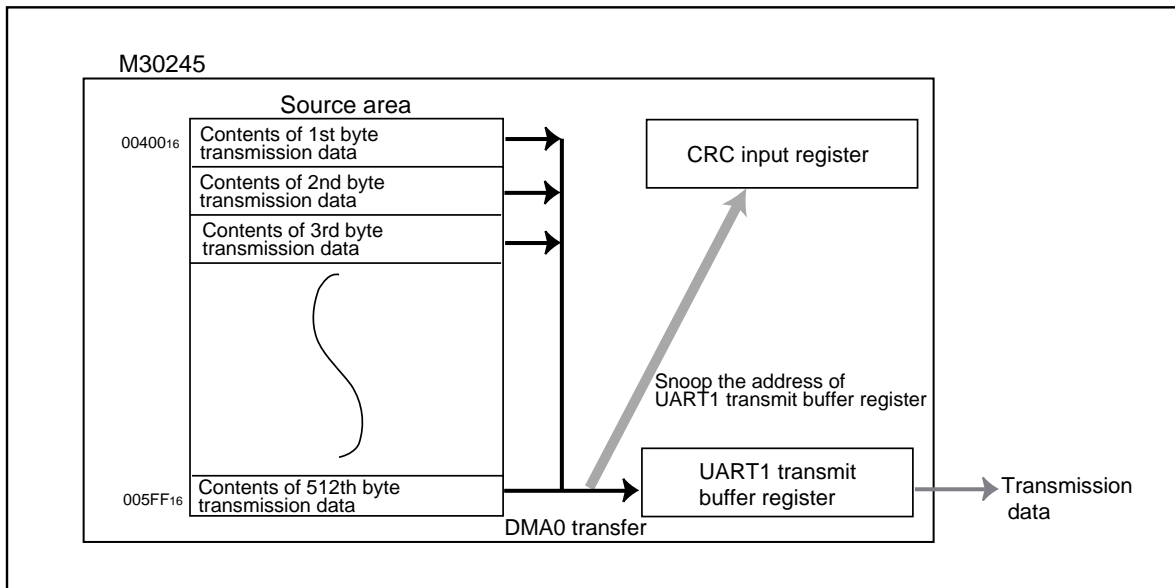
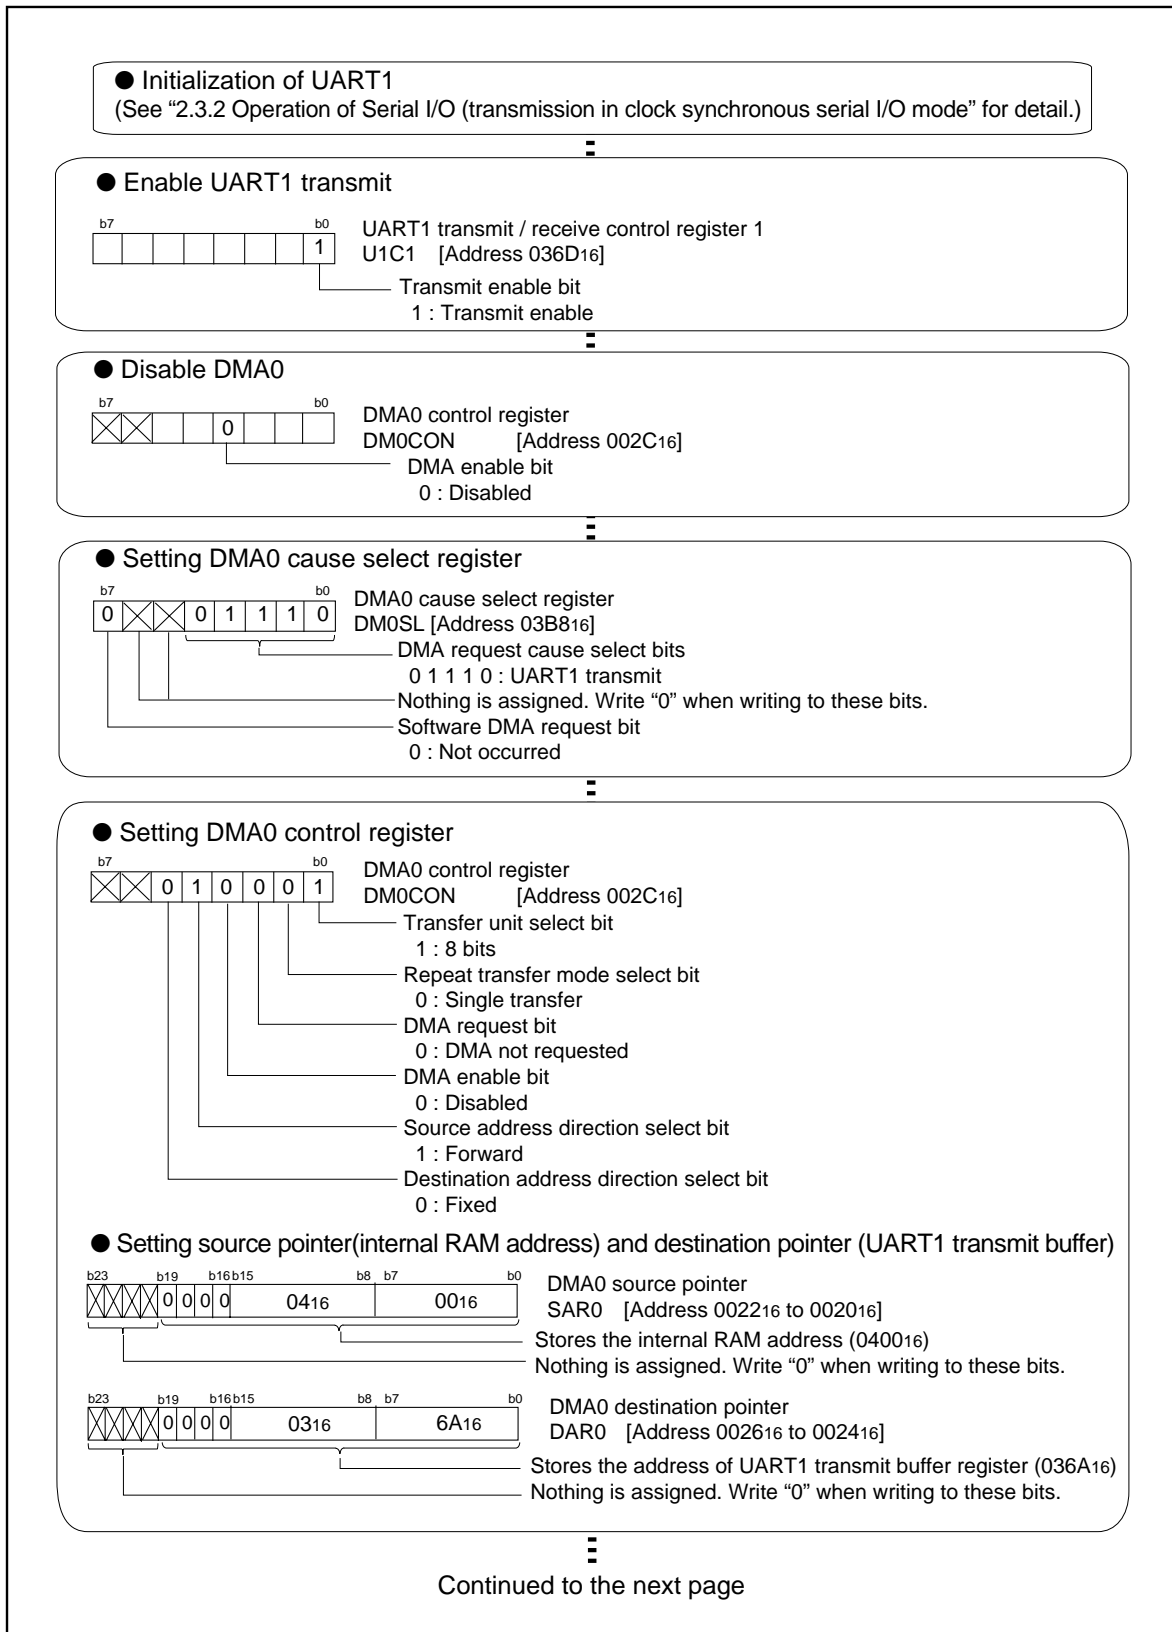

Figure 3.6.1. Block diagram of DMA transfer from RAM to UART and SFR snooping function
Figure 3.6.2. Setting routine (1) of DMA transfer from RAM to UART using SFR snooping function
**Overview** The M30245 group, by use of DMAC, transfers data from the internal RAM to the UART1 and the result is transferred to the UART1 by use of SFR access snoop function. The block diagram is shown in Figure 3.6.1 and the setting routine is shown in Figure 3.6.2 to Figure 3.6.4.